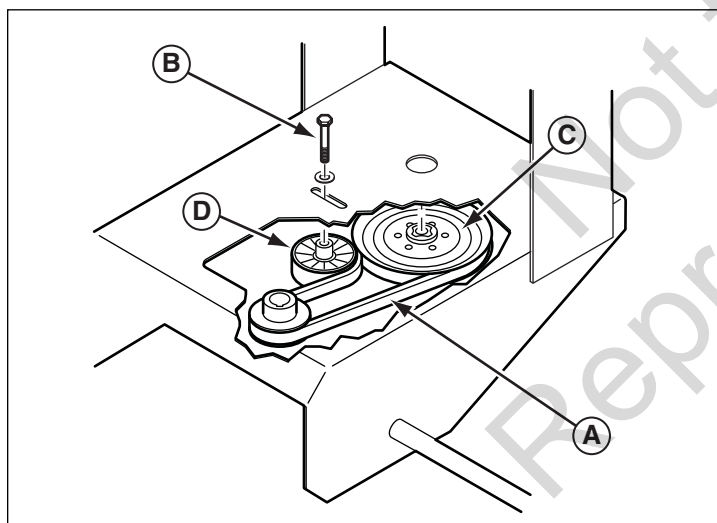

Figure 24. Transmission Drive Belt Adjustment
1. First check the belt tension (**A**, **Figure 24**). A 10 lbs (13,5 Nm) force is required to deflect the belt 3/16" (4,7 mm). See Figure 24.
6. Tighten the idler mount bolt and check the belt tension. A 10 lbs. (13,5 Nm) force is required to deflect the belt 3/16" (4,7 mm). See Figure 24.